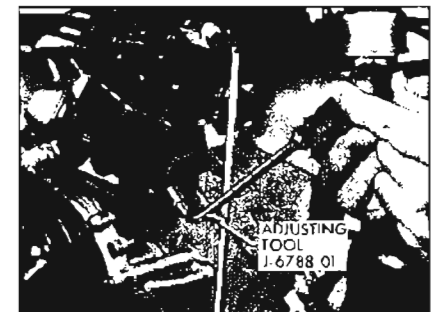

Figure 10-39—Adjusting Contact Point Dwell Angle
3. Start engine. Lift adjustment window and insert 1/8" Allen wrench in adjusting screw. See Figure 10-39. Set dwell angle at 30 degrees.